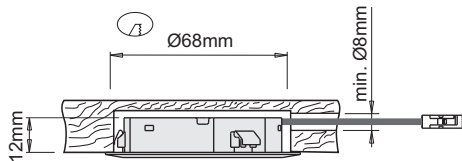

Fig 1
- To flush mount the device, bore a \varnothing 57mm hole 12mm deep on the installation surface and then, if necessary, bore a \varnothing 8mm exit hole for the power supply cable as illustrated in figure 1.
des Netzkabels eine Bohrung mit \varnothing 8 mm ausbilden (Abb. 1).